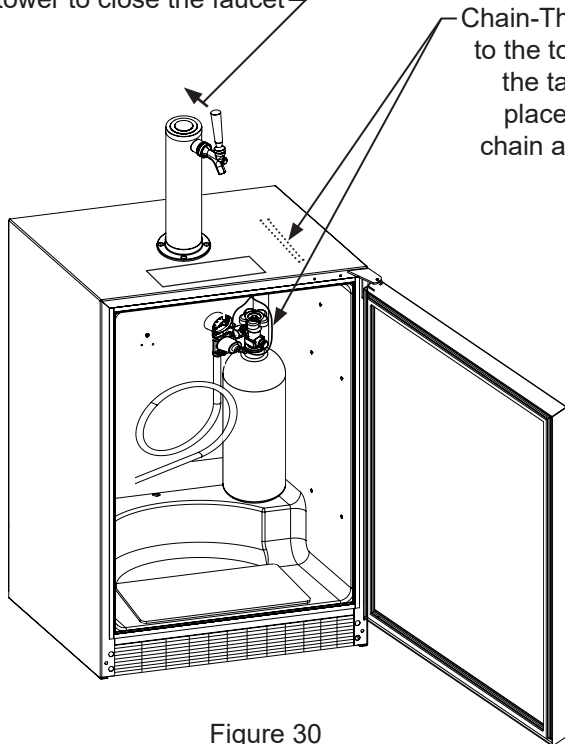

Figure 30
- Mount the regulator to the gas tank (connection (B)). Note that the regulator has left hand threads and has to be turned counterclockwise to tighten. Tighten with the adjustable wrench or the 1 $\frac{1}{8}$ " open end wrench.
- Connect the red air line(s) from the regulator to the **large** air line fitting on the keg coupler with a **large** hose clamp (connection (C)).
- Connect the clear beverage line from the tower to the **small** air line fitting on the keg coupler with a **small** hose clamp (connection (A)).
- Locate the gas tank in the corner of the refrigerator as shown in Figure 30 and secure with the chain. Close
2. Be sure the faucet handle is closed on the tower (see Figure 30).